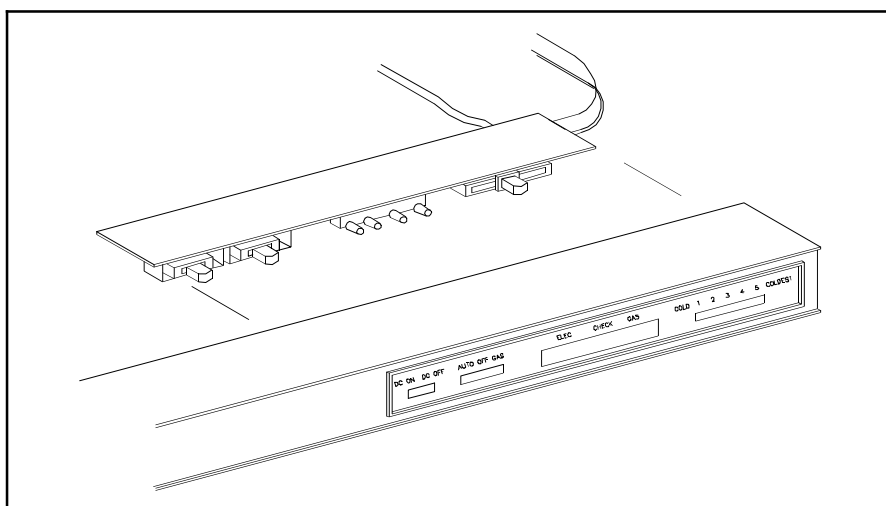

Figure 11.29 Eyebrow Board Removal
16. Remove the Eyebrow board from the Eyebrow assembly as shown in Figure 11.29. Do not disconnect the cable or thermistor from the Eyebrow board.